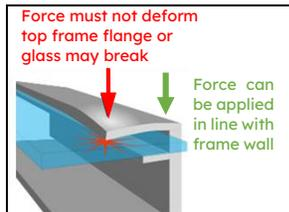

Figure 1a: Clamp Force Locations
- 2) **Clamps:** Mount the module with the opposite clamps on the longer and/or shorter sides of the module. Installers should ensure the clamps are of sufficient strength to allow for the maximum design pressure of the module. Clamps are not provided by Maxeon. Clamps that secure to the top of the frame must not deform the top flange. Clamps must apply force collinear with the 'wall' of the module frame and not only to the top flange. Clamps or installation procedures that put excessive force on the top flange will deform the frame, void the module warranty and risk glass breakage. **Figure 1a** illustrates locations for top frame clamp force. When clamping to the module frame, torque should never exceed 11 ft-lb to reduce chances of frame deformation and/or glass breakage. If the clamp manufacturer recommends a specific torque value which is lower than 11 ft-lb the installer should use the clamp manufacturer's torque value. If the clamp manufacturer recommends a specific torque value which is higher than 11 ft-lb, the installer should contact the clamp manufacturer for acceptance of the 11 ft-lb maximum torque value or to find alternative clamps. A calibrated torque wrench must be used. Mounting systems should be evaluated for compatibility before installing specially when the system is not using Clamps.